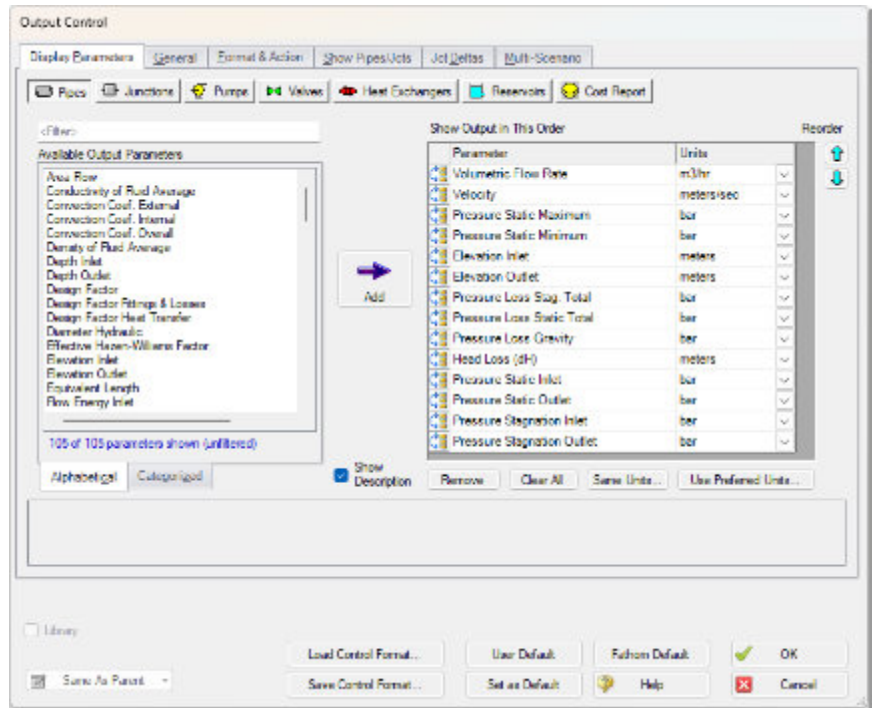

Figure 2.22 Customize the output using the Output Control window
Select the specific output parameters and units that you want in your output report using the Output Control window (Figure 2.22).
- ▶ **Select Output Control from the Common Toolbar** or from the Tools menu to open the Output Control Window (see Figure 2.22). On the Display Parameters tab, Pipes output type, the right-hand side lists the pipe output parameters to display in the output. Change the units for Volumetric Flow Rate by selecting the dropdown arrow next to m³/hr, then selecting m³/sec (cubic meters per second) from the unit list.
- ▶ **Select Output Control from the Common Toolbar again.** On the Display Parameters tab, Pipes output type, the Reorder scroll bar on the far right allows you to reorder parameters in the list. You can also click on the reorder symbol on the left side of each row to manually drag-and-drop the rows to change the parameter order (see Figure 2.22).